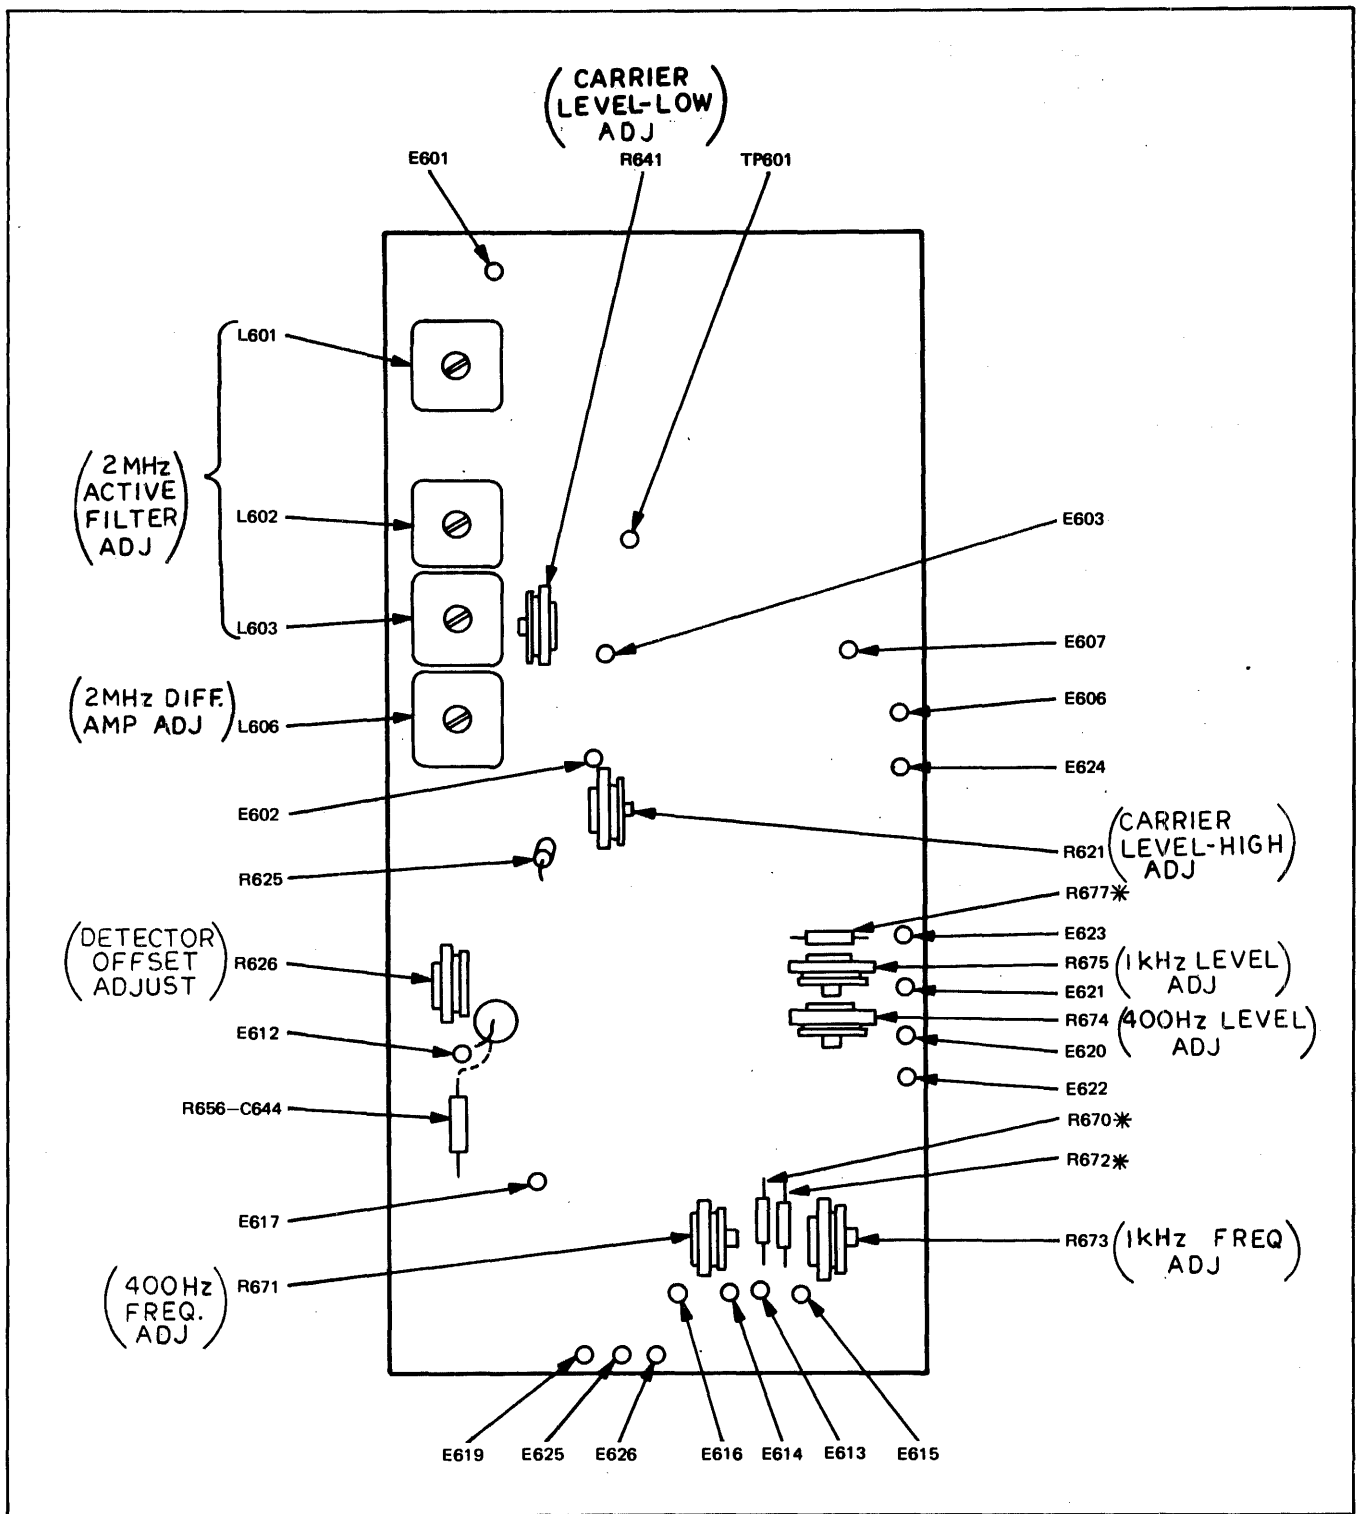

FIGURE 4-35. AM DETECTOR BOARD ASSEMBLY, A1 (OAM-1)
NOTE: The alignment and adjustment procedure is performed with the OAM-1 disconnected from the mainframe so that any problem in the mainframe will not affect the alignment of the OAM-1. Refer to Figures 4-35 through 4-38 for test point and trimmer locations. Remove the five screws in the back panel of the OAM-1 and slide the cover off the back.
a. Connect the 2 MHz signal source to the test connector. (Figure 4-35). Connect the ac VTVM between A1 pin E601 and ground. Adjust the 2 MHz signal source output level for 2.5 mV rms on the VTVM.